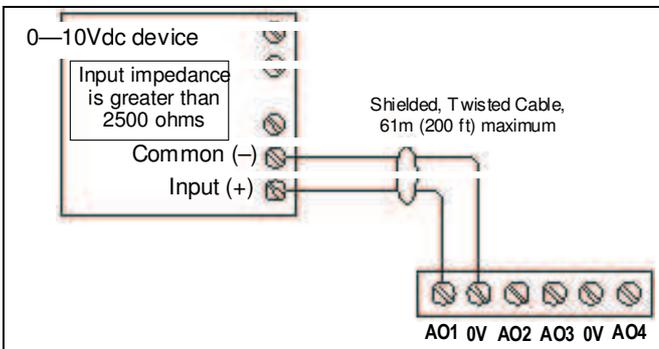

Fig. 9. Analog output wiring diagram
Analog outputs (AO) are referenced by the terminals labeled An and 0V (ground). Each AO can supply a maximum of 4 mA over the entire 0 to 10Vdc range. The minimum input impedance of a device controlled by an AO must be greater than 2500 ohms. Typical wiring for an AO is shown in Figure 9.